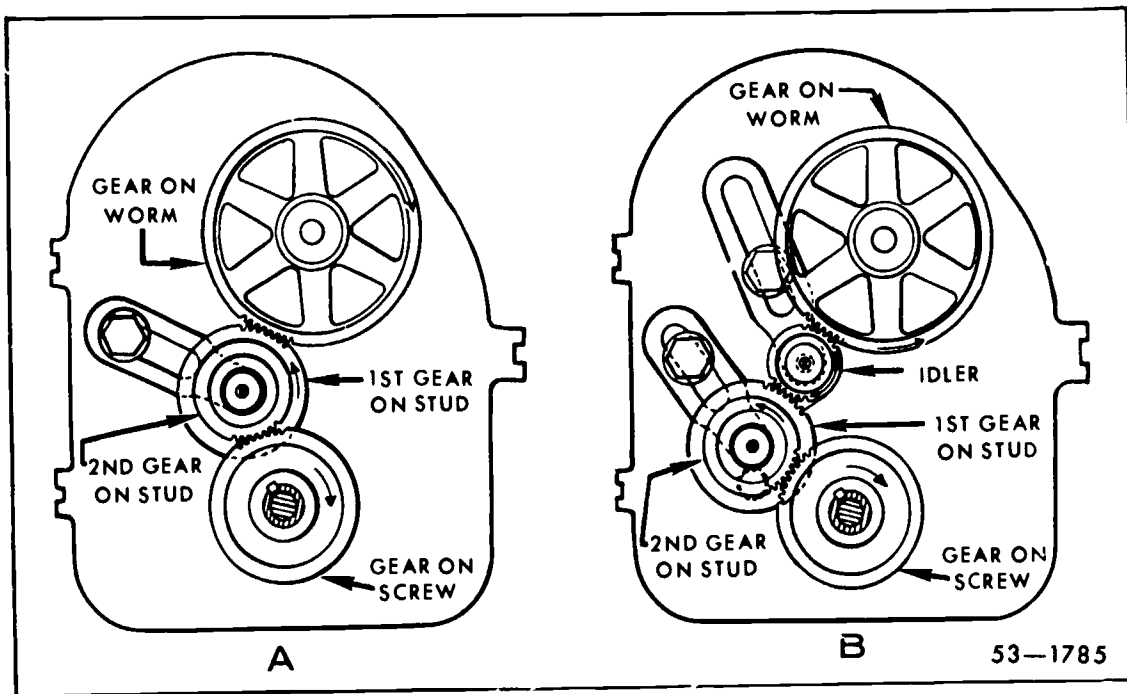

Figure 1-37 Gear train
Thus, the gear with 40 teeth and one of the gears with 32 teeth are driving gears, and the other gear with 32 and the gear with 48 teeth are driven gears. Figure 1-37,A, which shows a typical gearbox, will help you understand where to place the gears. First, place the last driven gear (32) on the splined shaft that rotates the index head worm. Then, in order, place the last driving gear (32) on the stud, the first driven gear (48) on the stud, and the first driving gear (40) on the splined end of the feed screw. Identified by their location, the four gears would be:
If the work does not rotate in the proper direction, you can place an idler gear in the gear train to reverse the direction of rotation, as shown in figure 1-37,B. The calculations to this point are typical for machining most helices on such things as reamers, drill bits, etc.